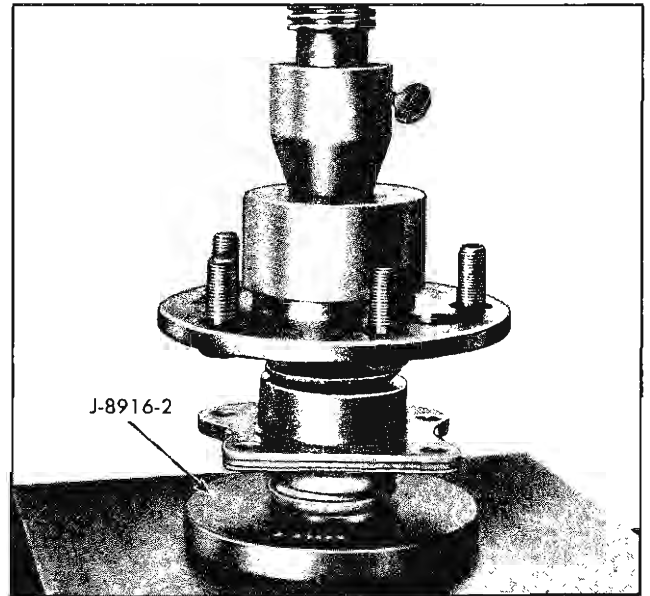

Fig. 4-10 Replace Axle Shaft Bearing
3. To prevent damaging the bearing assembly during installation, place old puller ring saved in Step 1 with its flat side against the bearing inner race and then press (Fig. 4-10) the puller ring and bearing assembly onto the axle using J-8916-2. Remove old puller ring.